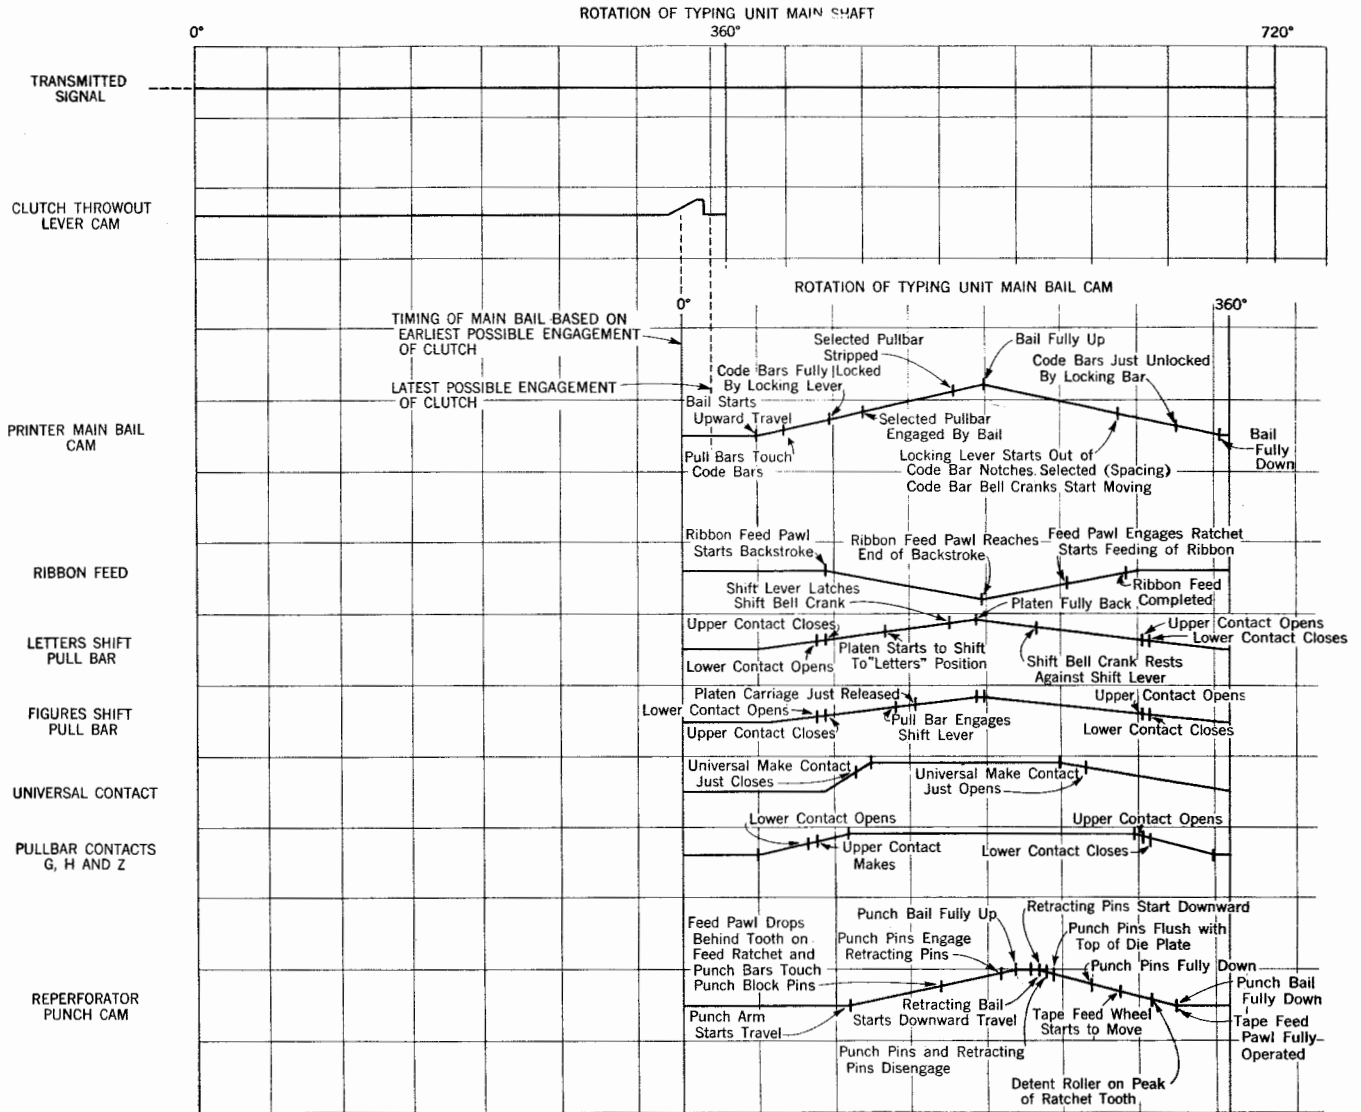
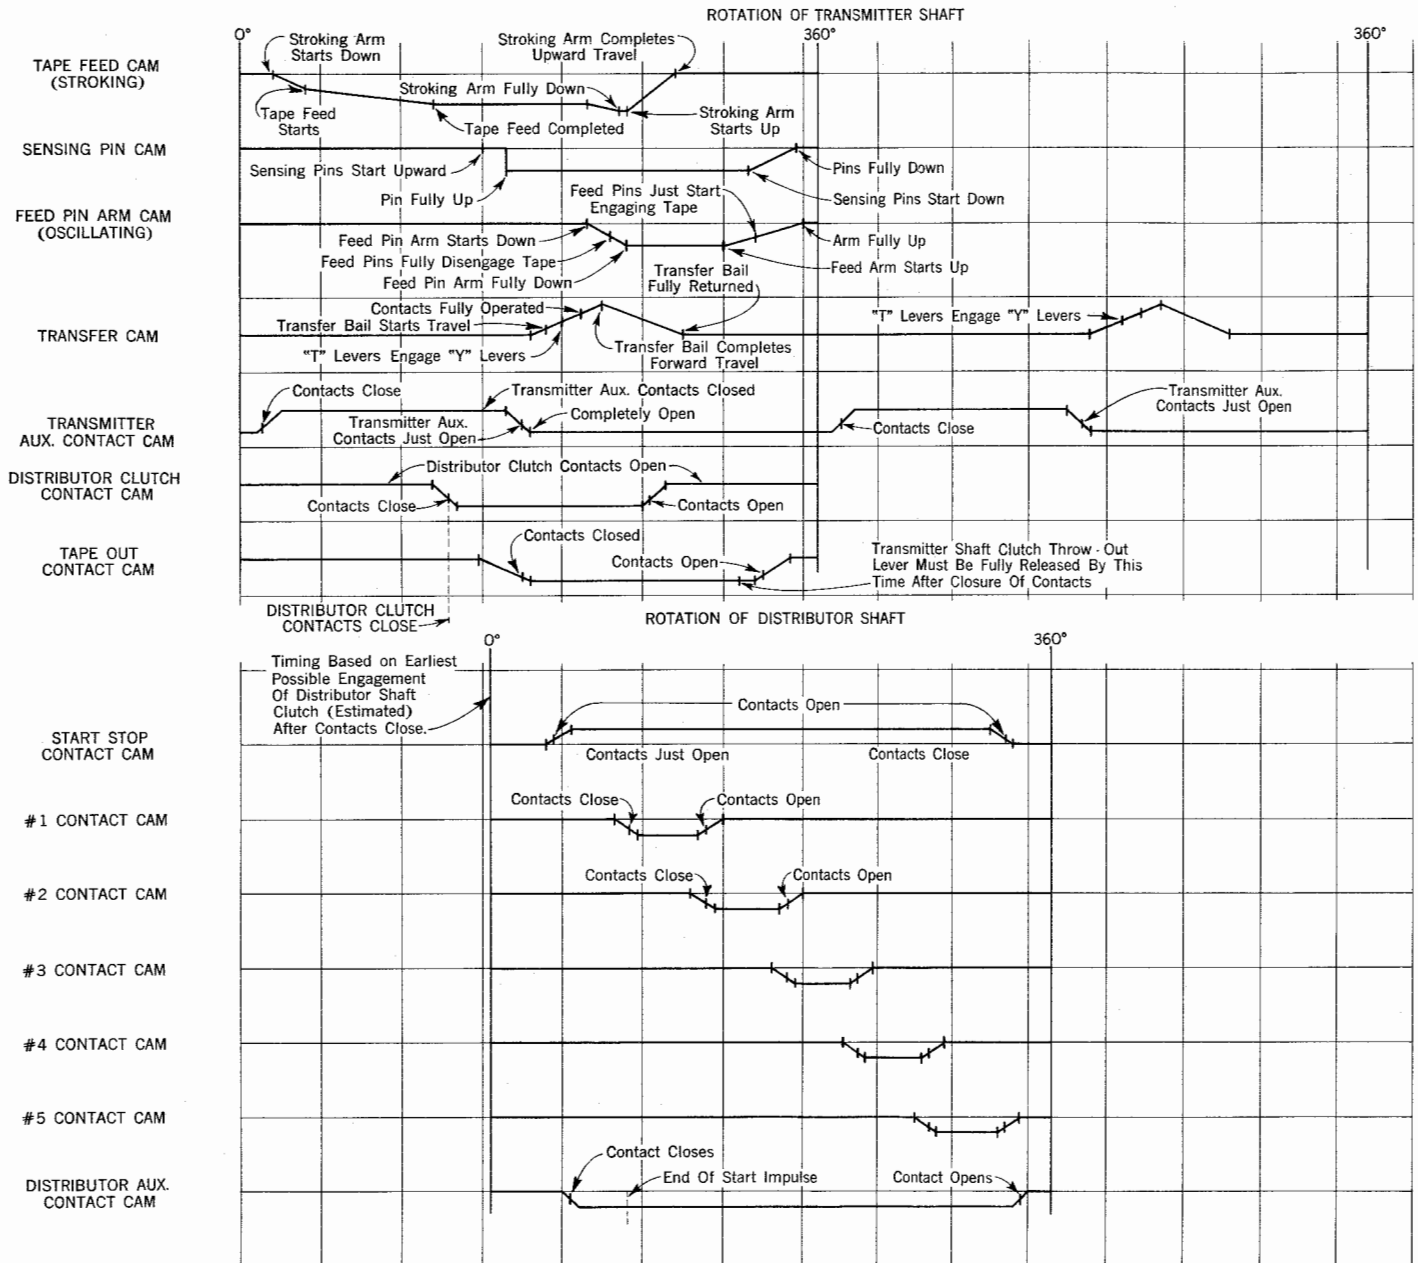
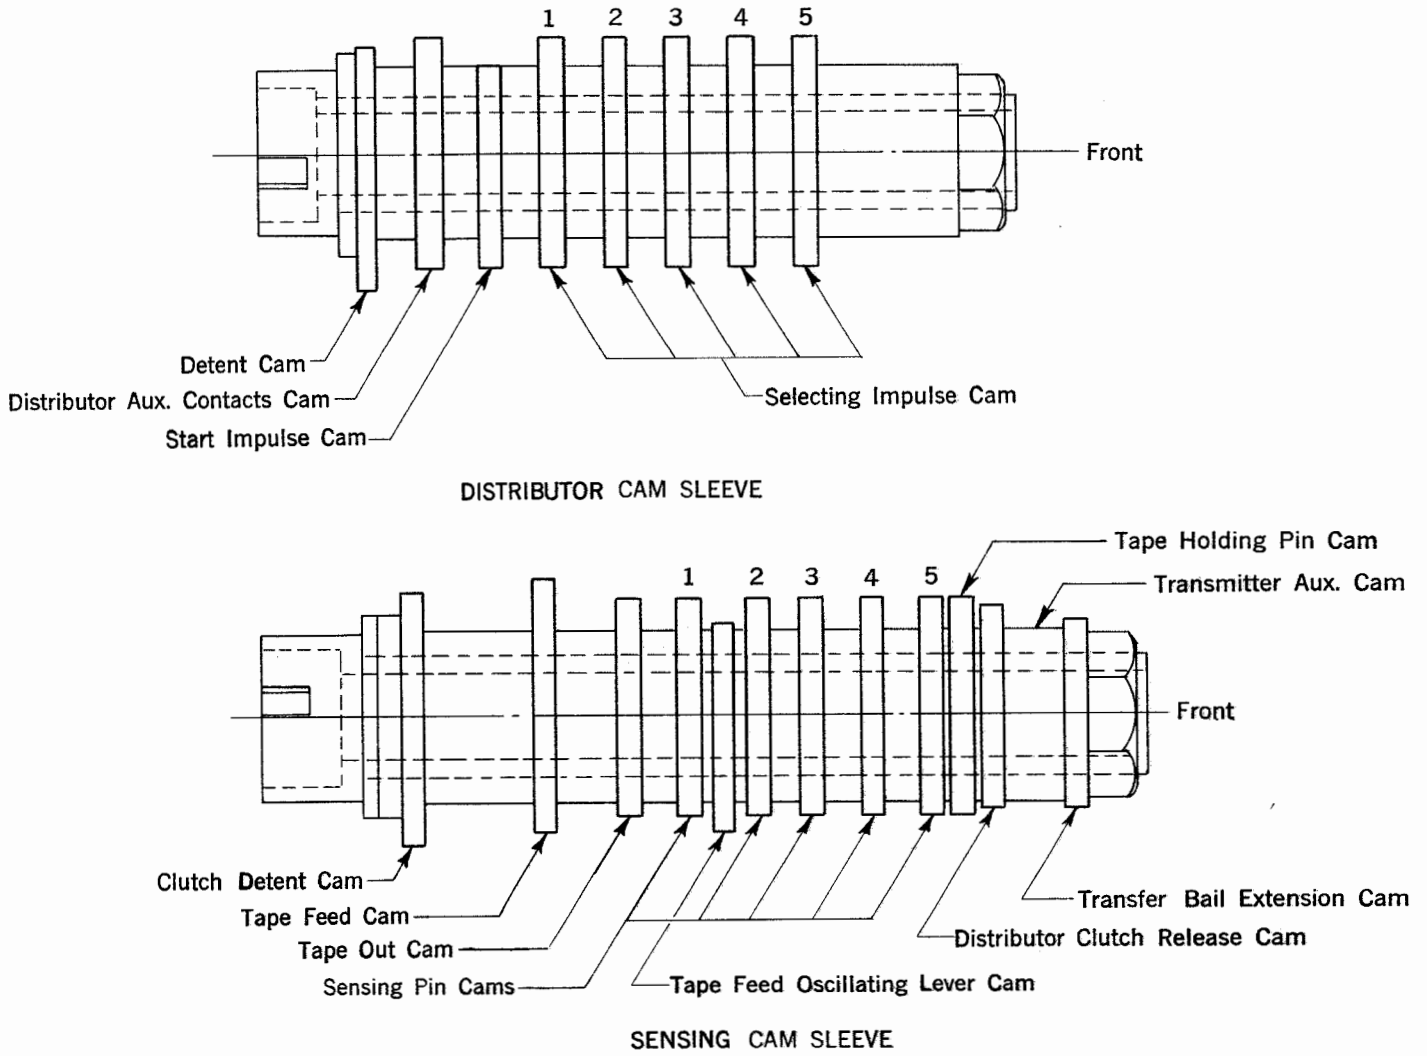

Figure 80 — 14 Reperforator-Transmitter Timing Graph (Receive Side)
Figure 81 — 14 Reperforator-Transmitter Timing Graph (Send Side)
Figure 82 — 14 Reperforator-Transmitter Sensing Cam Sleeve and Distributor Cam Sleeve
3.01 The timing of the 14 reperforator-transmitter is shown on the graphs in Figures 80 and 81. Figure 82 shows the sensing cam sleeve and the distributor cam sleeve associated with the timing graph in Figure 81.